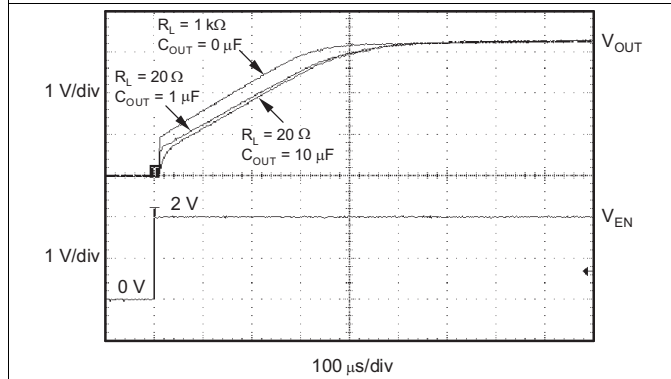

Figure 21. TPS73133 Turnon Response
The enable pin (EN) is active high and is compatible with standard TTL-CMOS levels. A  $V_{EN}$  below 0.5 V (maximum) turns the regulator off and drops the GND pin current to approximately 10 nA. When EN is used to shutdown the regulator, all charge is removed from the pass transistor gate, and the output ramps back up to a regulated  $V_{OUT}$  (see Figure 21).